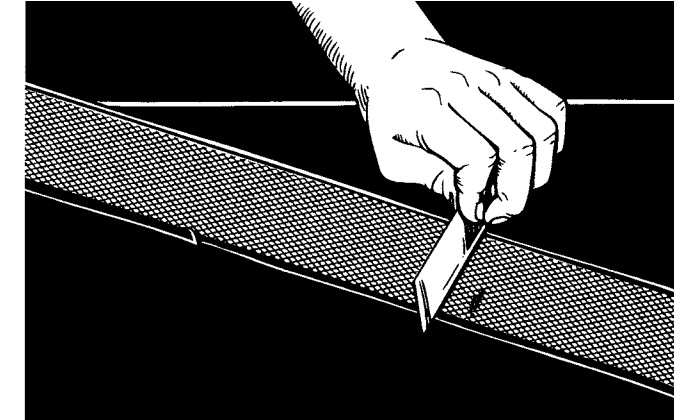

Fig. 5-18
33. Use a small straight edge to check for the proper gauge of fill-in gum. The straight edge should make imprints on the gum (Fig. 5-18). Any low spots should be built up.